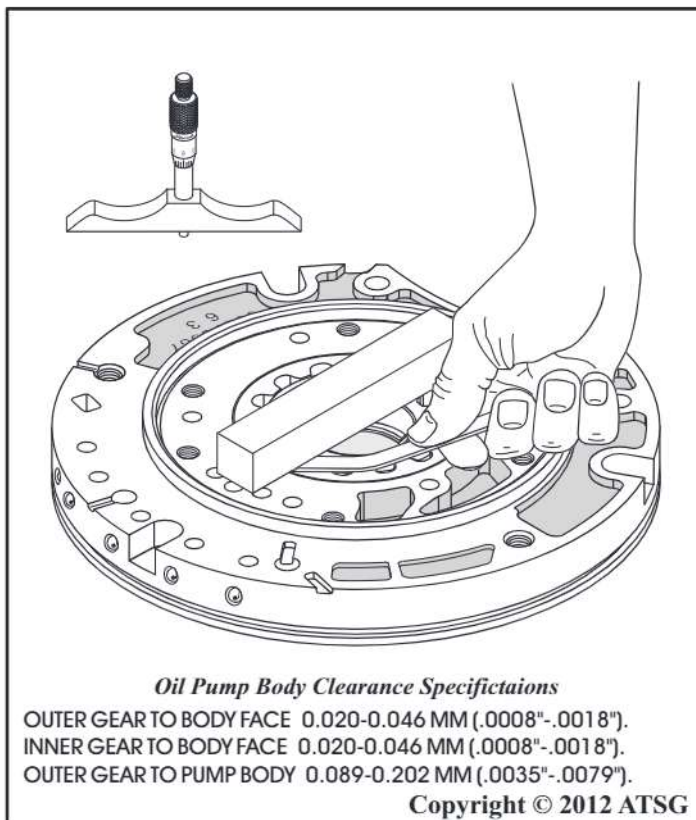

Figure 202
7. Check the gear to face clearances using a feeler gauge with straight edge, or a depth micrometer, as shown in Figure 202.
Note: Acceptable pump specifications are also shown in Figure 202.